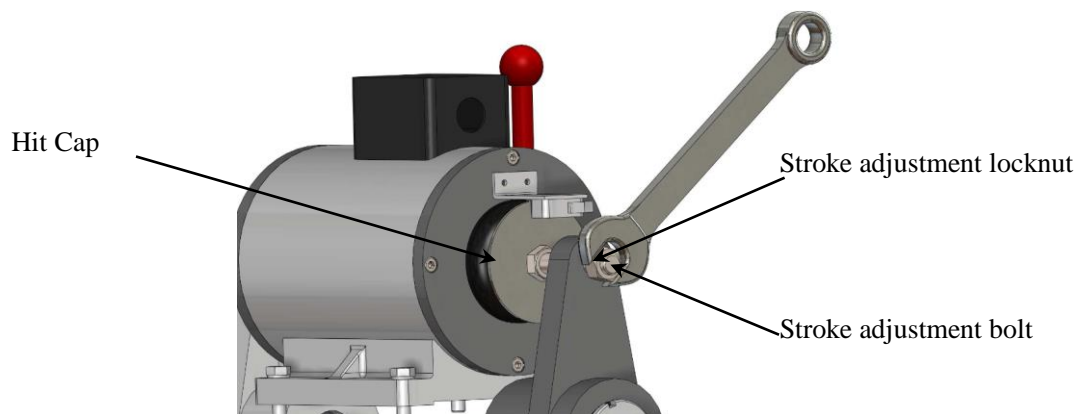

Figure 13 Normal Brake Stroke Adjustment
1. Loosen the Stroke adjustment locknut, verify that the Hit Cap and the Stroke Adjustment Bolt just make contact when the brake's power is on, and screw the Stroke Adjustment Bolt with a hex wrench 6mm into the direction of the brake solenoid to 1.6~2.0mm (0.063"~0.079"). See Figure 13.